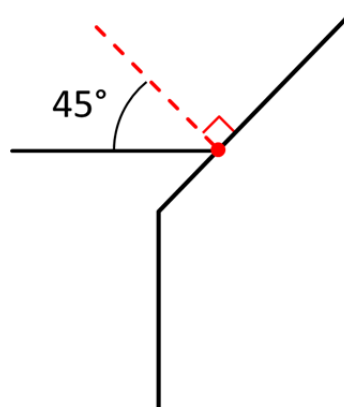

Figure 3: Rhomboid with Lines
3. Choose a point (any point) along the angled side of the outline, and then use the protractor to draw a normal line at that point similar to Figure 3.
4. At the same point, draw a 45° line relative to normal that extends outward from the outline similar to Figure 3.